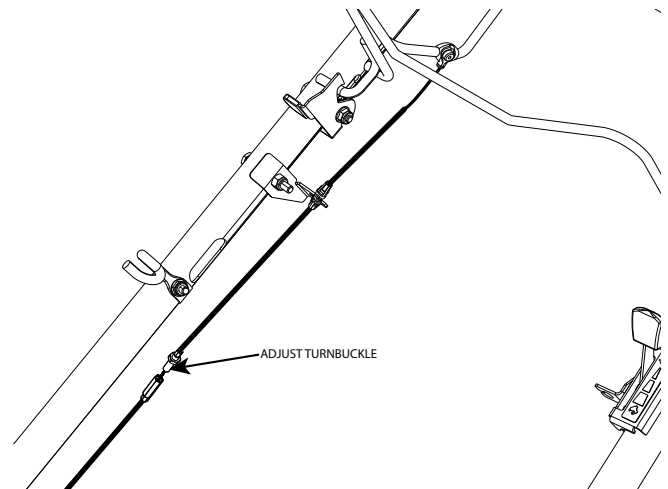

Figure 6-3. Drive Adjustment
4. With the drive bar in the disengaged position, adjust the drive cable by loosening the locking nut on the turnbuckle, then turn the adjusting wheel to either shorten or lengthen the drive cable as needed; once the desired tension is achieved, tighten the locking nut to secure the adjustment. See Figure 6-3.